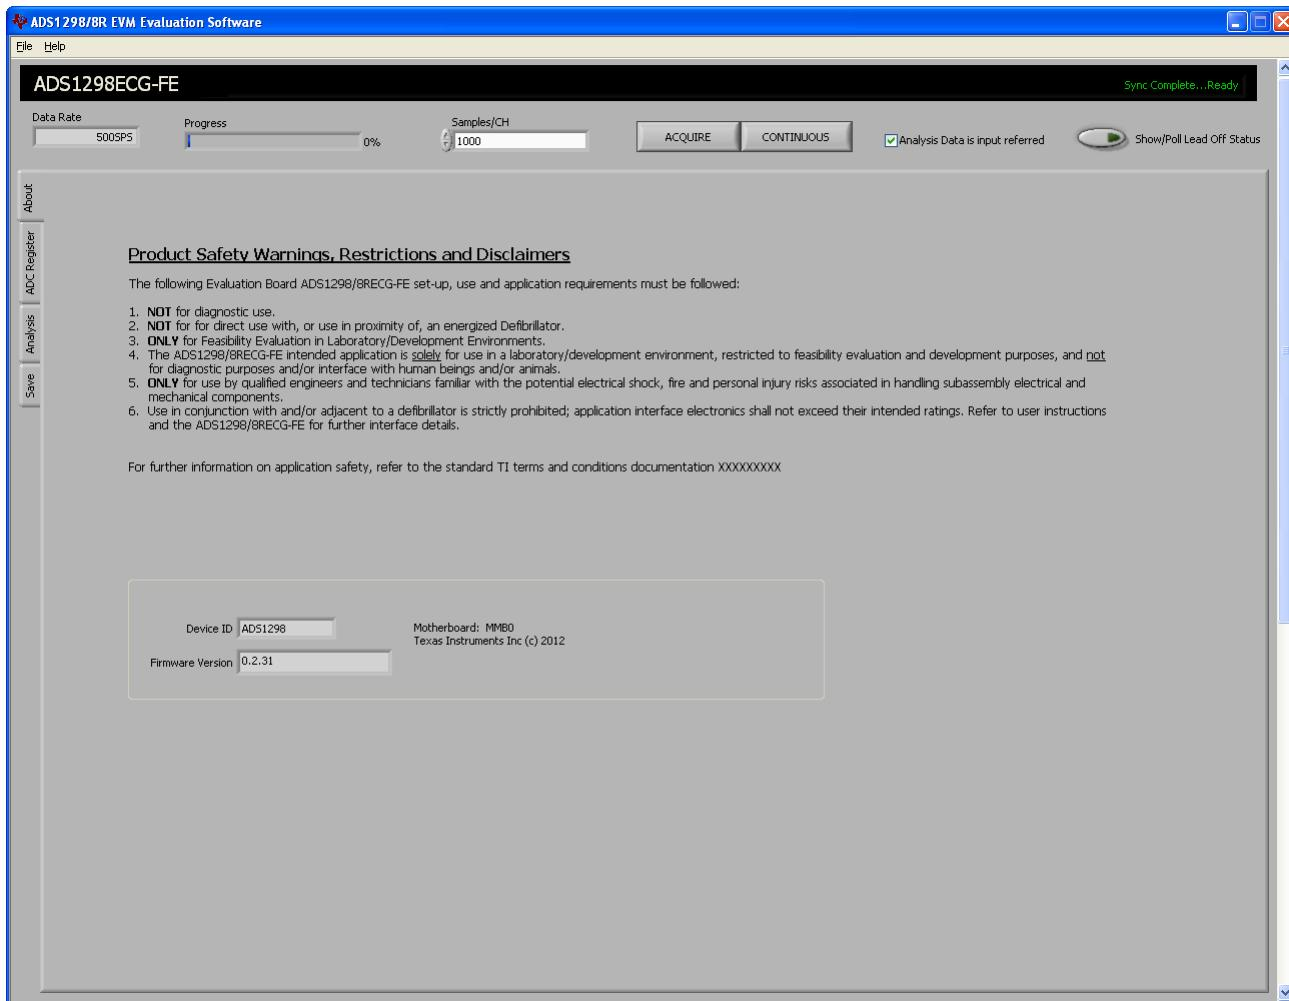

Figure 3. Software Start Screen/About Tab
The ADS1298ECG-FE software provides complete control over all the settings of the ADS1298. By using the user interface (UI), the ADS1298 control registers can be manipulated to evaluate the various options available on the device. Figure 3 shows the starting UI screen of the software. The UI consists of a user menu (Section 3.1), a few top-level controls (Section 3.2), and a tabbed interface, with different functions available on the different tabs. The tabs are:
The **About** tab provides software information to the user. Important safety warning, restrictions, and disclaimers for the software and hardware are shown and should be followed during the evaluation of this product. Additional indicators are present to provide device information (**Device ID** and **Rev**) and software information (**Firmware Version**). The **About** tab should be the first screen displayed at startup (see Figure 3).